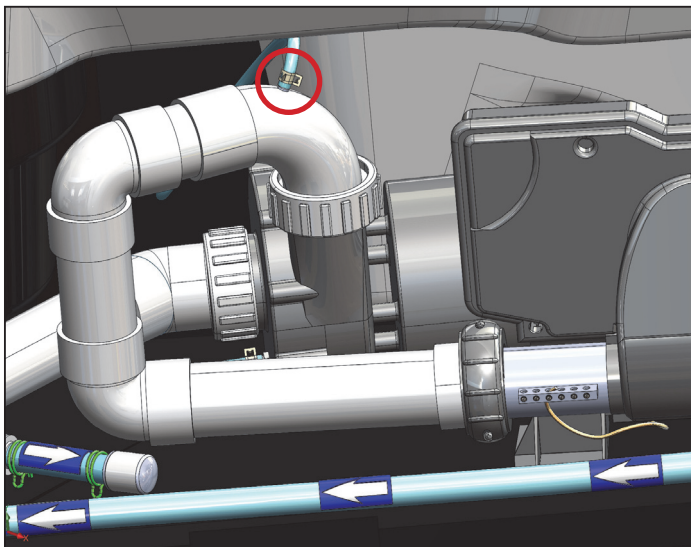

Figure 1.1
2. Disconnect the 1/4" vinyl tube from the jet pump discharge line (Figure 1.1).